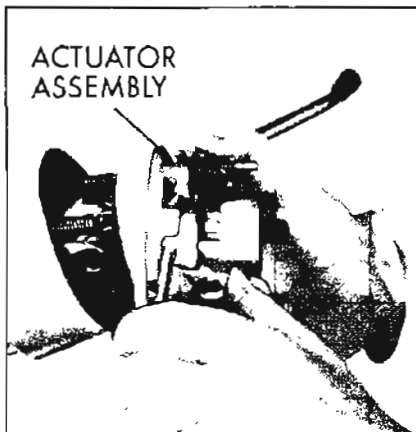

Figure 8-85—Removing Actuator Assembly
12. Lift tilt wheel release lever to disengage lock shoes from the support and remove actuator assembly. See Figure 8-85. Remove tilt springs.
6. Apply front wheel bearing lube on lock shoes and on frictional surfaces at actuator assembly including surfaces where actuated contacts support. Move the tilt lever up slightly to prevent the lock shoes from engaging the support pins, then install the actuator assembly over the steering shaft, carefully feeding horn and control wire through shift bowl. Position actuator assembly on support. See Figure 8-85.